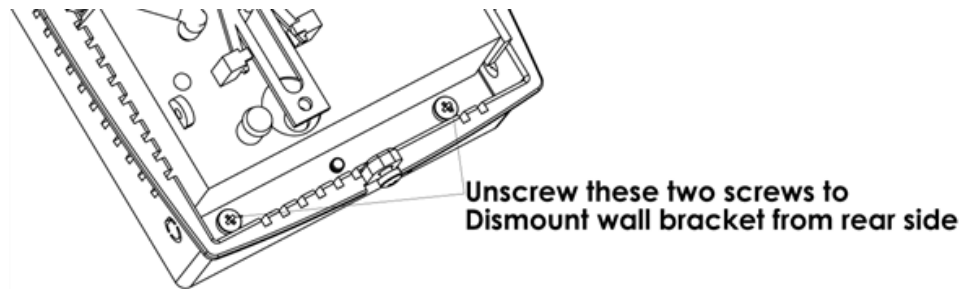

Figure 3. Removing the Universal Wall Bracket
2. If the universal wall-mounting bracket is attached to WPT-DB, remove it by unscrewing the two captive screws on the bottom of the WPT-DB, as shown in Figure 3.